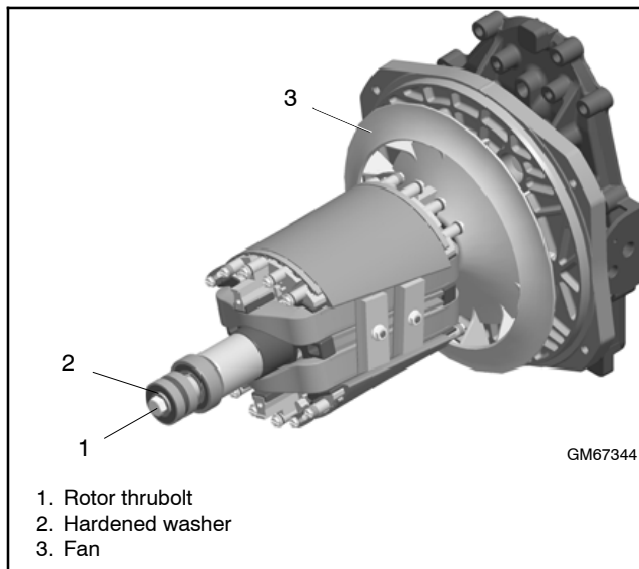

Figure 7-27 Rotor Assembly
2. Install the rotor. See Figure 7-27.